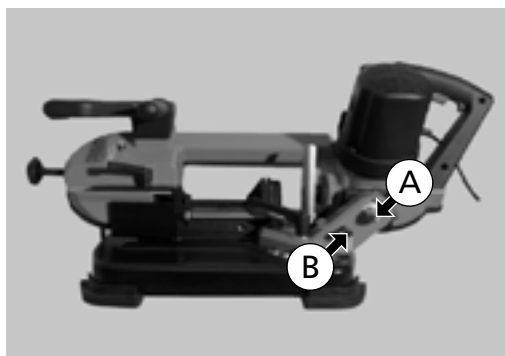
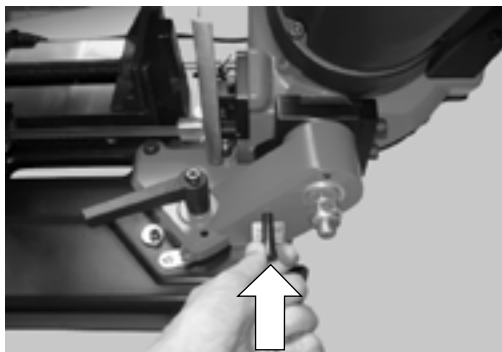

Fig. 29
Fig. 30
With the band saw set to the initial position displayed (Fig. 29), block the vertical axis (A) inserting the end stop (B) until it is flush, as indicated by the arrow (Fig. 30).
Elements of Fig. 29